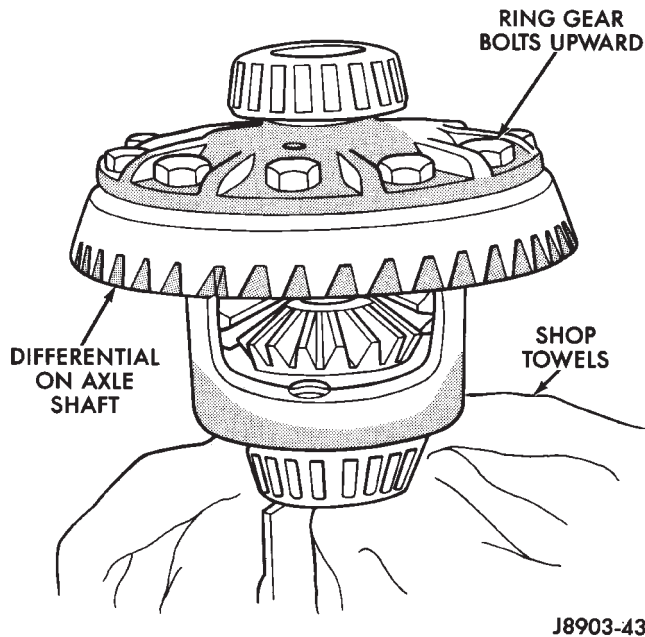

Fig. 5 Differential Case On Shaft
(2) Position the differential case on the axle shaft (Fig. 5). Place shop towels under the differential to avoid damage during removal of the ring gear (Fig. 5).